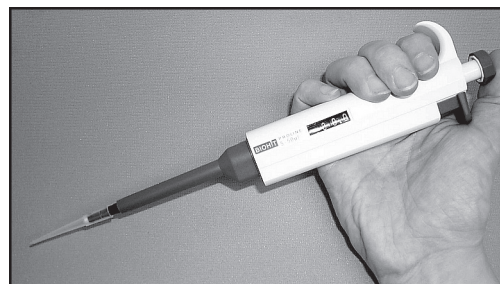

Figure R7.6 | Biohit Micropipettor Used in Lab
1. The micropipettes (a.k.a. pipettors) you are using have units of μL (microliters— 10^{-6} liters). Using the dial on the top of the plunger (Figure R7.6), select the volume you wish to deliver. **These micropipettors cannot measure less than $5\mu\text{L}$ or more than $50\mu\text{L}$. Do NOT set them beyond these points.**